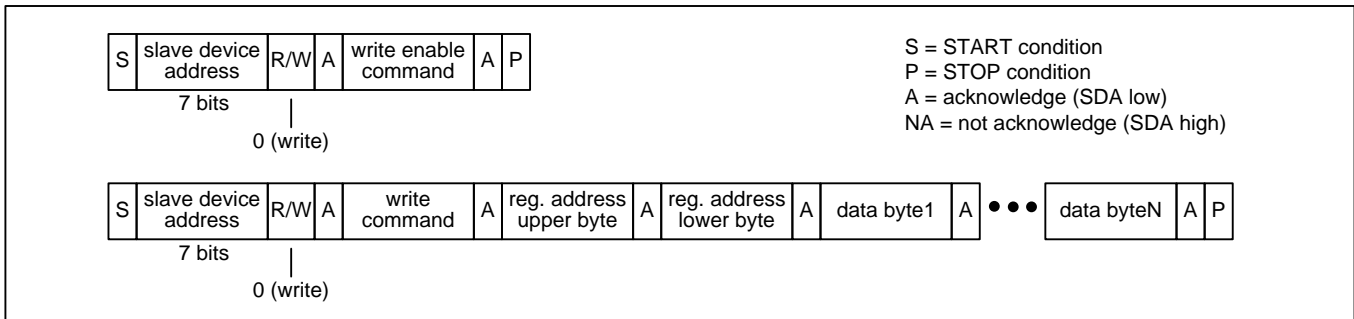

Figure 16 – I2C EEPROM Write Transaction Functional Timing
**EEPROM Writes.** The EEPROM memory is accessible when  $EESEL=1$ . The bus master first does an I2C write to transmit the SPI Write Enable command (see Table 4) to the device. The bus master then does an I2C write to transmit data to the device as described in the Register Write Transactions paragraph above. See Figure 16.